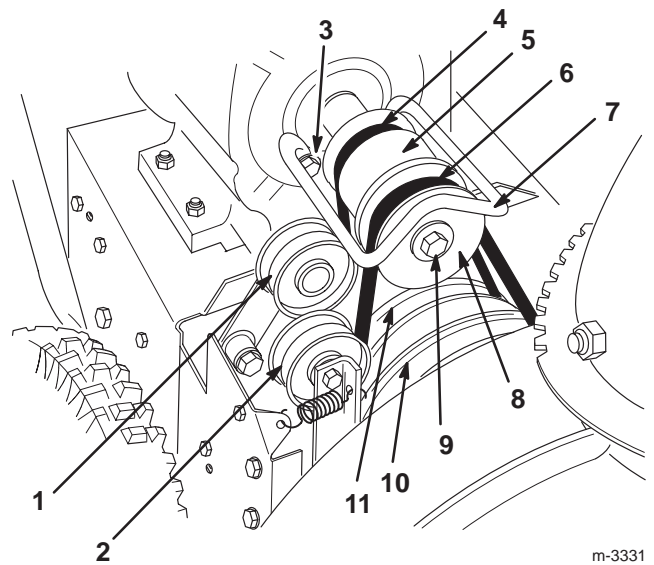

Figure 32
6. Remove two bolts, two washers, and two lock washers that secure the belt guide (Fig. 32).
7. Remove the engine crankshaft bolt, lock washer, and washer (Fig. 32).
8. Separate and remove the engine pulley sheave (Fig. 32).
10. Remove the engine pulley (Fig. 32).
11. Remove the traction drive belt from the traction pulley and the engine crankshaft (Fig. 32).
12. Pull the traction idler pulley outward and install a new traction drive belt (Fig. 32).
14. Pull the idler pulley outward and loop the auger/impeller drive belt in front of the engine pulley, ensuring that the belt is on the inside of the idler pulley (Fig. 32).
6. Remove the two bolts, two washers, and two lock washers that secure the belt guide (Fig. 32).
9. Remove the auger/impeller drive belt (Fig. 32).
10. Pull the idler pulley outward and install a new belt around the large auger/impeller pulley (Fig. 32).
11. Loop the belt in front of the engine pulley, and ensure that the belt is on the inside of the idler pulley (Fig. 32).